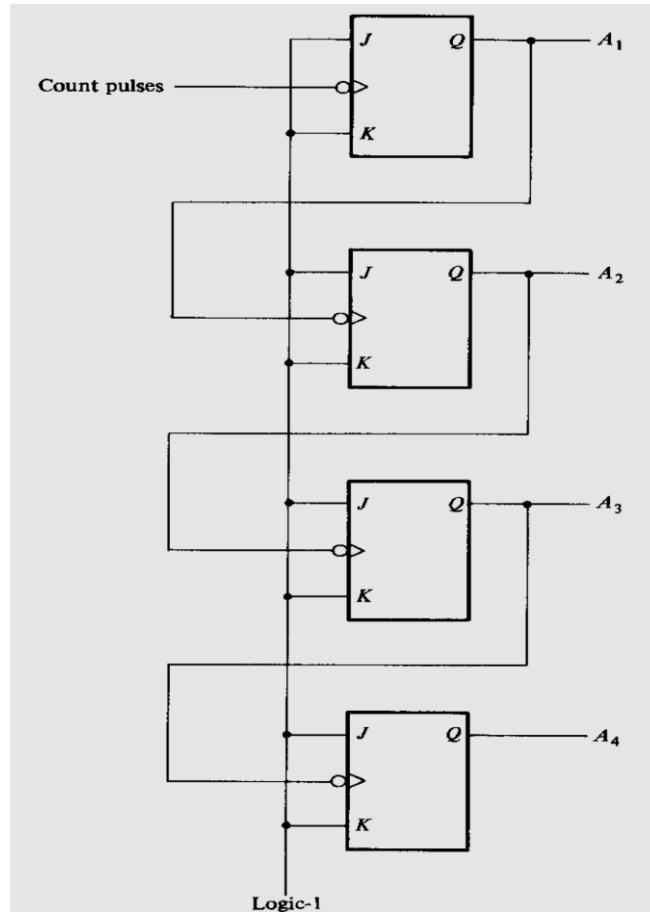

Figure 11.1 4-bit binary ripple counter
- Four bit binary ripple counter is shown in Fig. 11.1